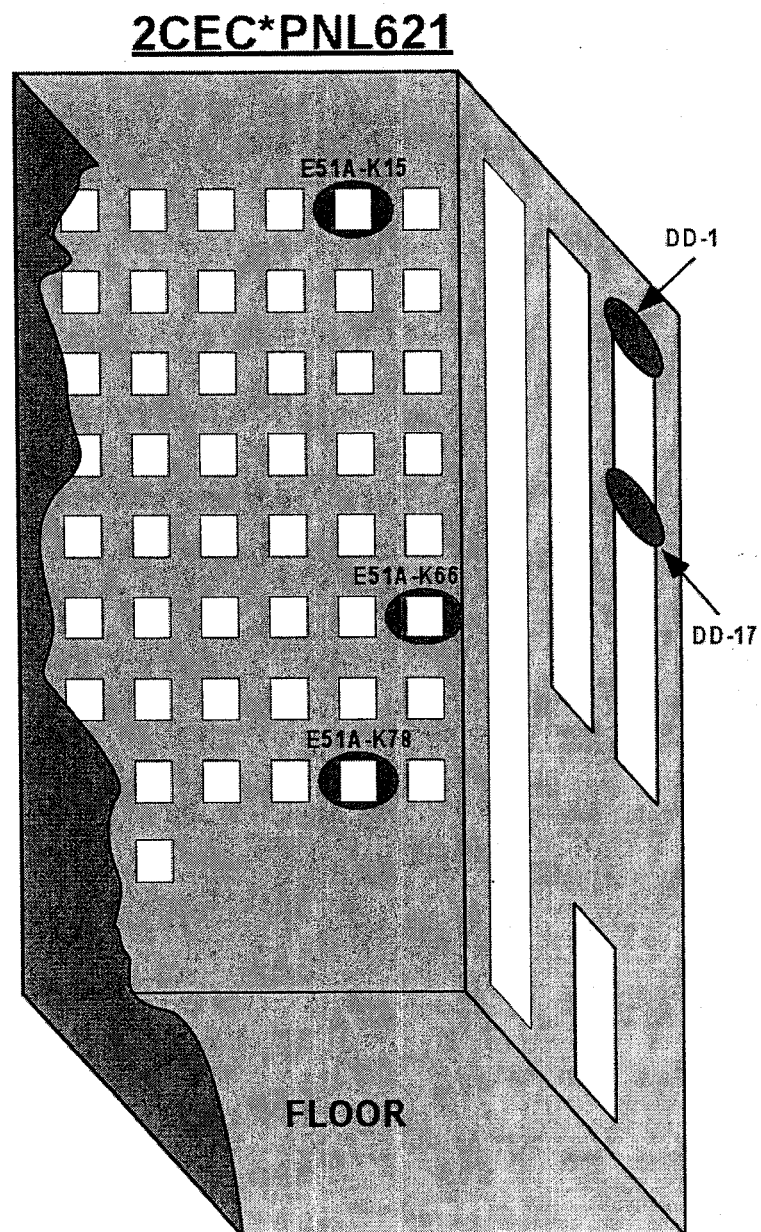

FIGURE 18-6
- Ⓣ 4.8.4 Remove EOP Jumper #4 from terminal points DD-1 AND DD-17 in 2CEC\*PNL621 (Figure 18-6) ..... ( )
- 4.8.5 Install relay E51-K15 in 2CEC\*PNL621 (Figure 18-6)..... ( ) \_\_\_\_/\_\_\_\_
- E51A-K66 (Figure 18-6), (2CEC\*PNL621) ..... ( )
- E51A-K78 (Figure 18-6), (2CEC\*PNL621) ..... ( ) \_\_\_\_/\_\_\_\_